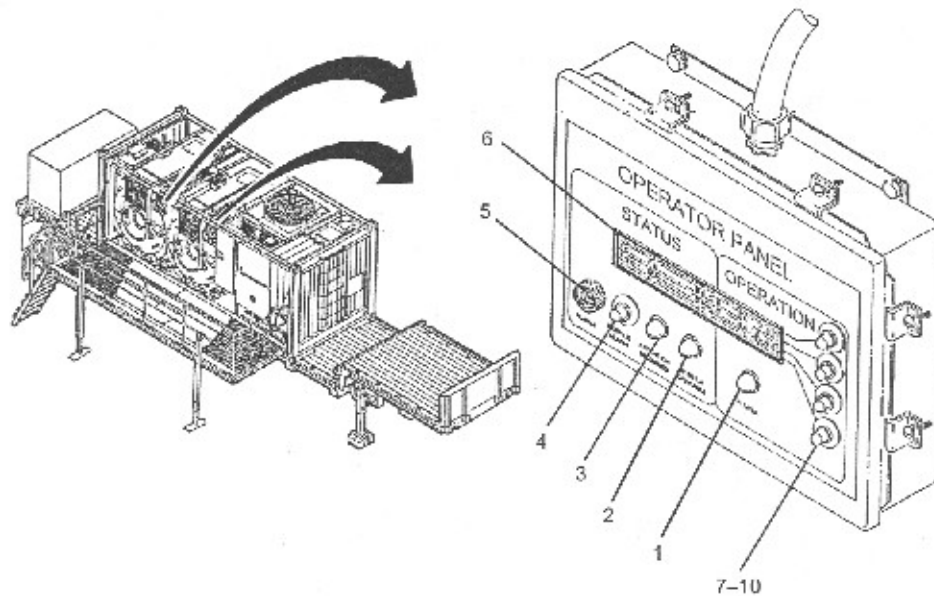

Figure 3-33
- b. MAIN CONTROL ENCLOSURE CONTROLS AND INDICATOR. OPERATOR PANEL CONTROLS AND INDICATORS. Two operator panels are used on LADS. Operator panel A is used to operate washing/drying system A. Maintenance personnel also use operator panel A to control, monitor, and test LADS operation. Operator panel B is used only to operate washing/drying system B. Below Figure shows the location of the controls and indicators found on the operator panels. Below describes the use of these controls: (See Figure 3-33)